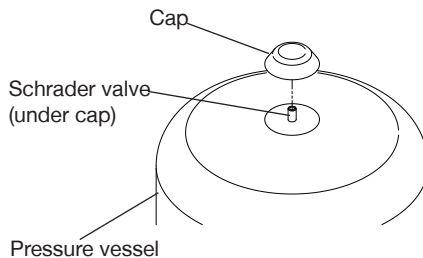

Fig. 12
- d) With the drain valve open, unscrew the black plastic cover to reveal the Schrader valve. Check air charge at Schrader valve (Fig. 12) using a tyre pressure gauge.
- e) Replenish air charge by injecting air into the vessel via the Schrader valve using a car or bicycle pump (Fig. 12). The vessel charge pressure **must** be 2/3 of the system set pressure, i.e. with a system set pressure of 4.2 bar, the vessel charge pressure must be set to 2.8 bar. **Do not** exceed a vessel charge pressure of 4 bar.